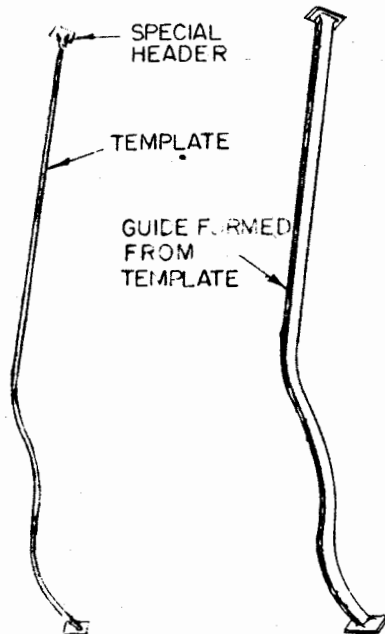
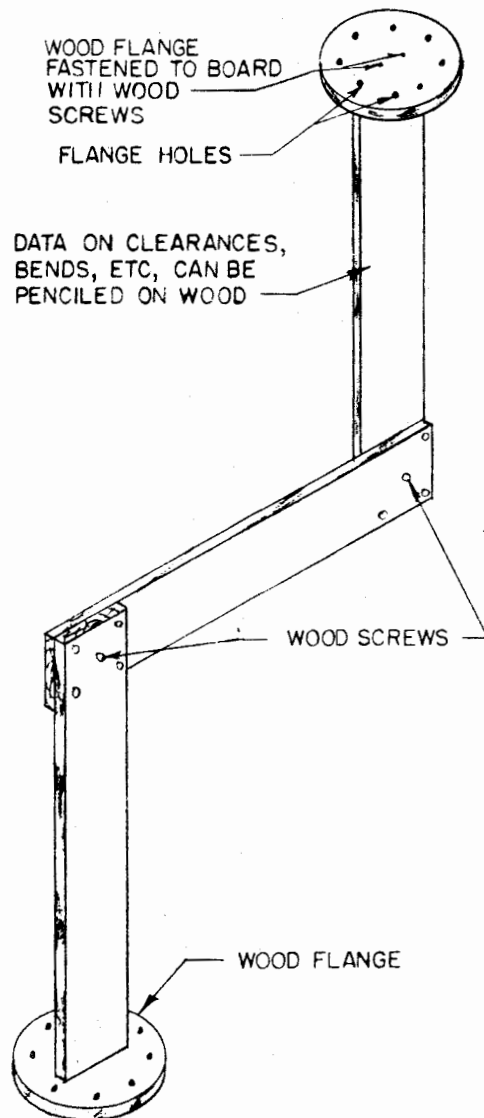

Figure 11-8. Guide Showing Template and Waveguide Formed from It
Figure 11-9. Wooden Waveguide Template
(1) On 3-1/4 inch x 6-1/2 inch waveguide or 1-1/2 inch x 3 inch waveguide a 1/8 inch hole may be drilled in the center of the wide side. It is not good practice to drill on the narrow side.
(2) On 5/8 inch x 1-1/4 inch waveguide a 1/32 inch or 3/64 inch hole may be drilled on the center of the wide side, or two such holes may be drilled one inch apart along the guide. If preferred, a slot not greater than three inches in length may be cut along the guide, 3/64 inch each side of center (total width of slot 3/32 inch).
a. TEMPLATE.—The first step in fabricating a waveguide is to go aboard the ship and make a full scale template (see Figures 11-8 and 11-9). The purpose of the template is to provide the shop with accurate information as to the shape, radius, and angle of all bends and twists
A method of using a wrought metal wire template is shown in Figure 11-8, and the method of using a wooden template is shown in Figure 11-9. When the template is brought back to the shop, it can be laid out on a wooden bench or table and the opposite flange can then be fastened